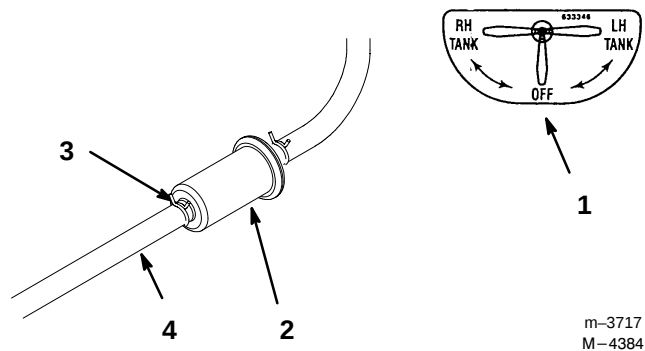

Figure 36
6. Install a new filter and move the hose clamps close to the filter (Fig. 36).
2. Close fuel shut-off valve (Fig. 36).
3. Loosen the hose clamp at the fuel filter and slide it up the fuel line away from the fuel filter (Fig. 36).
4. Pull the fuel line off fuel filter (Fig. 36). Open fuel shut-off valve and allow gasoline to drain into a gas can or drain pan.
5. Install the fuel line onto the fuel filter. Slide the hose clamp close to the fuel filter to secure the fuel line (Fig. 36).